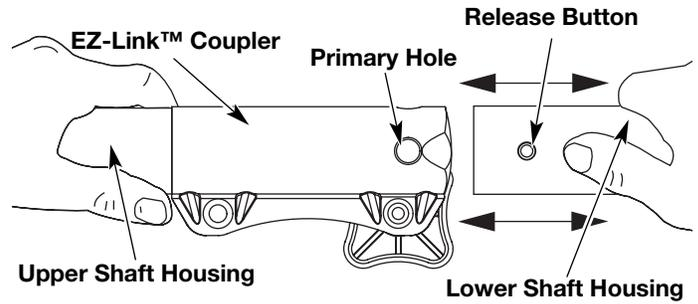

Fig. 10
2. While firmly holding the add-on, push it straight into the EZ-Link™ coupler (Fig. 10).
3. While firmly holding the upper shaft housing, pull the cutting attachment or add-on straight out of the EZ-Link™ coupler (Fig. 10).
**CAUTION:** Lock the release button in the primary hole (Fig. 10) and securely tighten the knob before operating this unit.